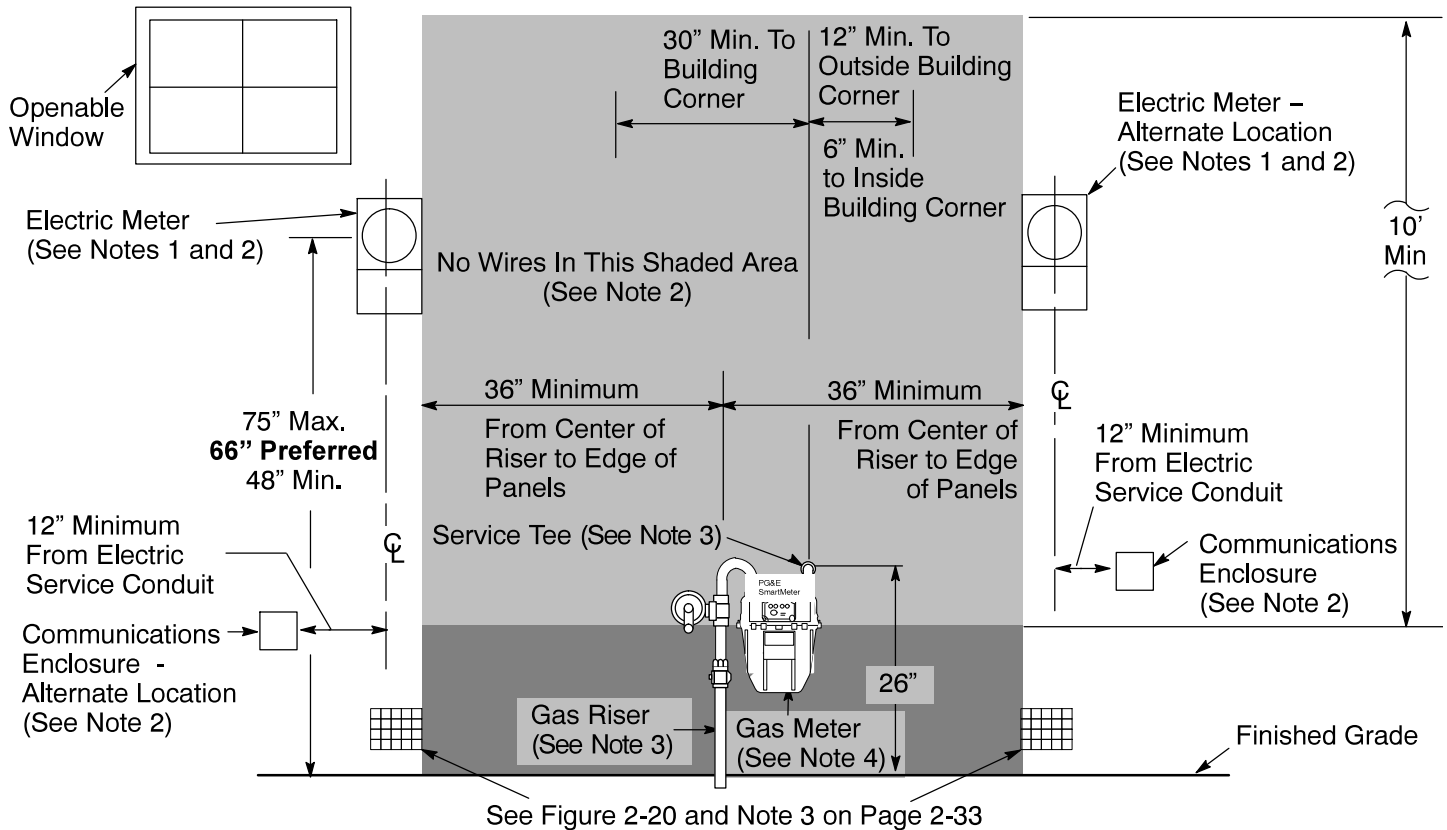
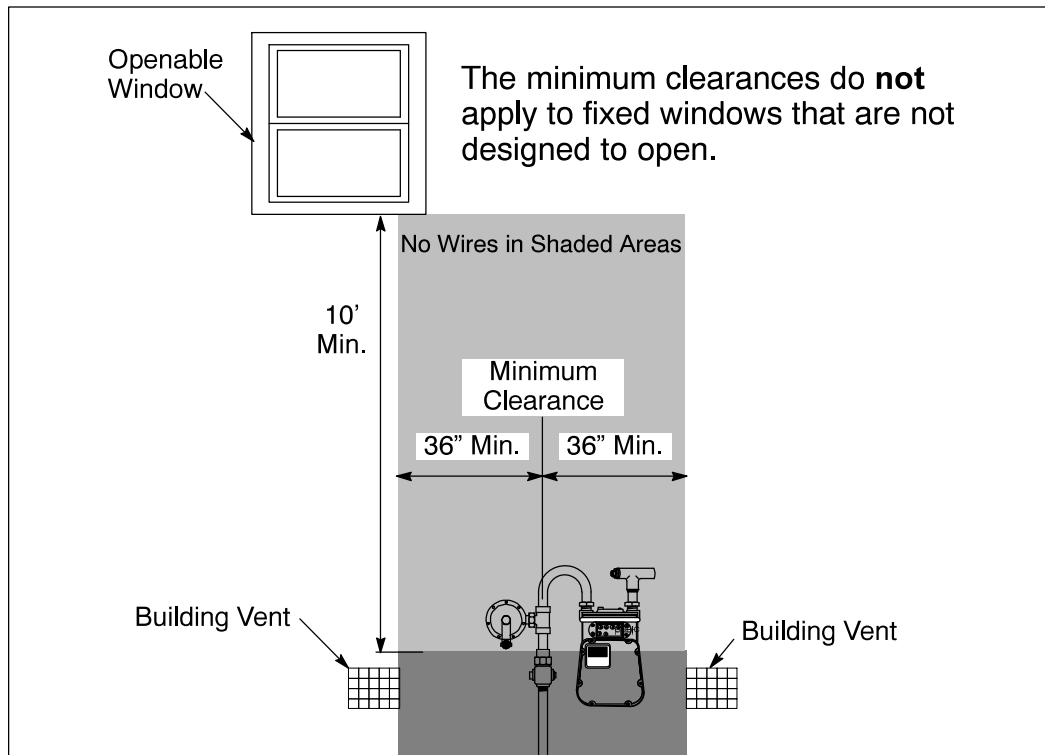
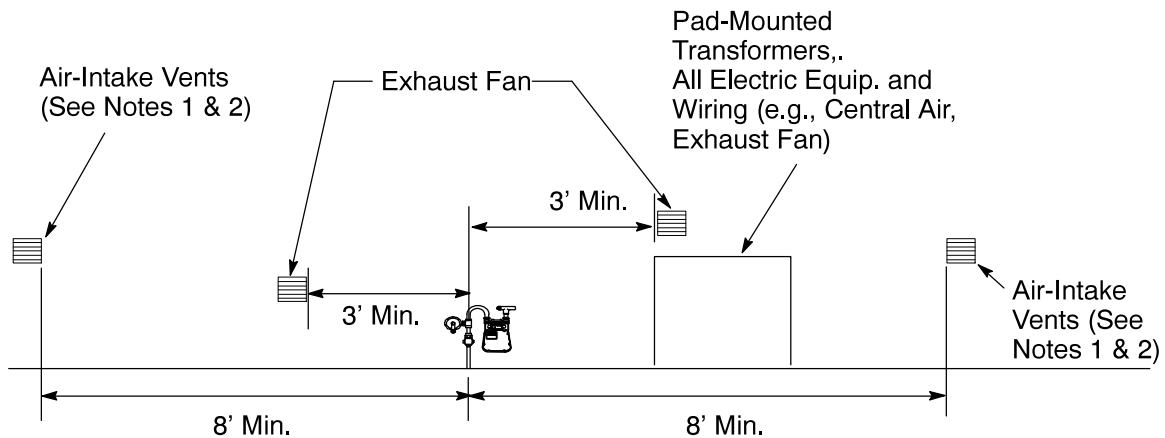

Figure 2-19
Figure 2-20
Figure 2-21
Figure 2-19, “Electric and Gas Meter Set Separation Dimensions and Clearances,” below; Figure 2-20, “Gas Meter Set Clearance From Building Openings,” on Page 2-33; and Figure 2-21, “Gas Regulator Set Clearance Requirement From Sources of Ignition,” on Page 2-34, all represent various metering facilities’ clearance requirements. If applicants install enclosures on their premises, the enclosures must meet the specifications provided in these illustrations.
Notes in reference to Figure 2-19.
4. The minimum dimensions and clearances in Figure 2-19 are good for gas meters up to the 1,000 class. See Figure 2-14 and Figure 2-15 on Pages 2-27 and 2-28 for illustrations of clear and level working space in front of the gas meter.
Notes in reference to Figure 2-20.
Note in reference to Figure 2-21.